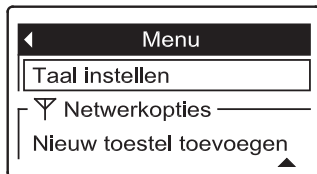

FIG. 109
From the rolling status screens, press SELECT (○). Press DOWN (▼) to scroll through the list until the line immediately **above** the antenna (Y) symbol is highlighted (See Figure 109), then press SELECT (○). Press UP (▲) to scroll to **English** at the top of the list, then press SELECT (○) twice. Press LEFT (◀) to exit the menu.